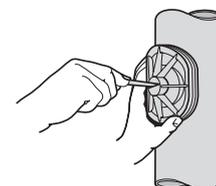

Fig. 17e Step 7
Step 7 – Tighten the screw while pulling the door outwards (Fig. 17e)